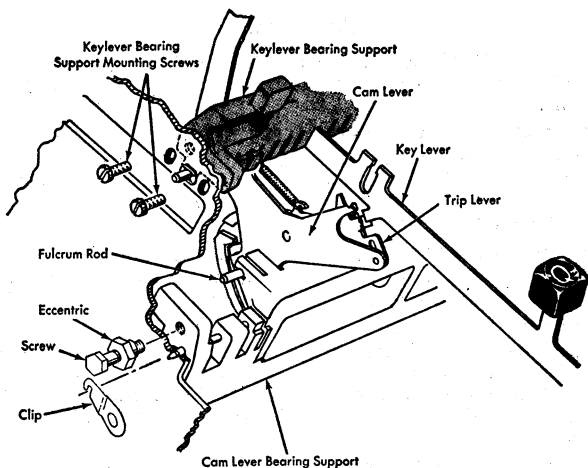

Figure 4. Key Lever Bearing Support
3. Remove the speed clip on either end of the key lever fulcrum wire (Figure 4).
5. Insert a follow-up cam bearing fulcrum wire through the side frame until the cam to be removed is reached. Then separate the two fulcrum wires just enough to drop the desired cam assembly (Figure 4).
6. Disconnect the cam lever spring and remove the assembly from the bottom of the machine (Figure 4).
1. KEY LEVER BEARING SUPPORT. Adjust this up or down so that the key levers trip their respective cams when the key levers are $1/32''$ plus or minus $1/64''$ from the bottom of the key lever guide comb (Figure 4). The individual keys should be checked to be certain that each cam trip lever can reset beneath the lug on the key lever when the key lever restores to its full upward position.